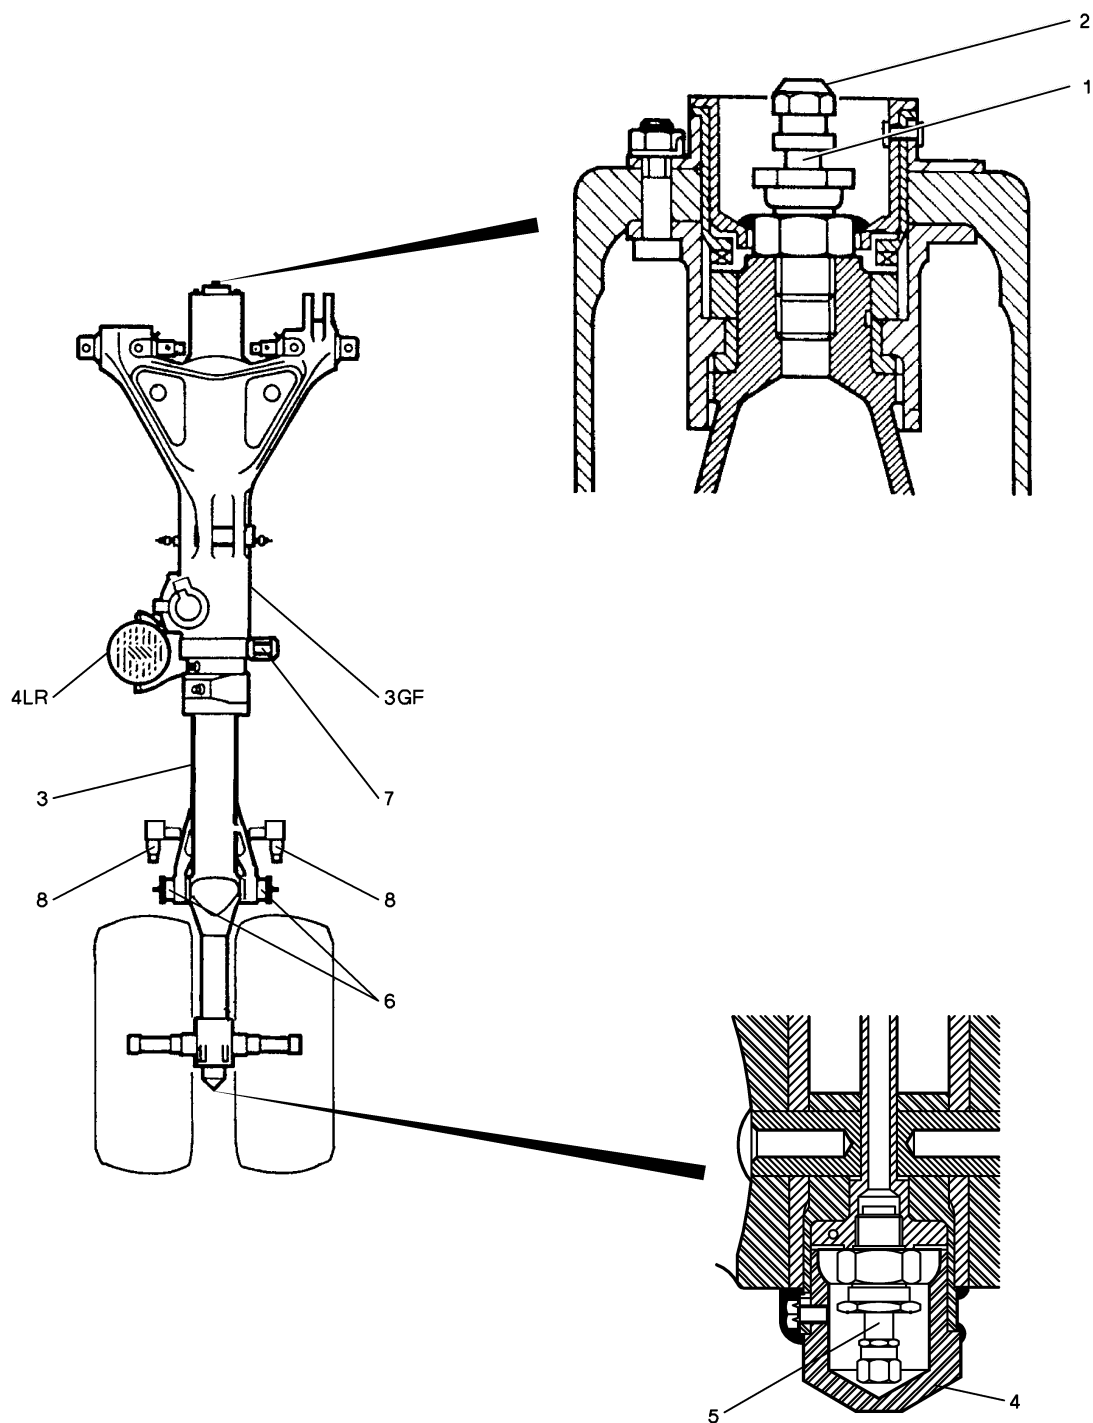
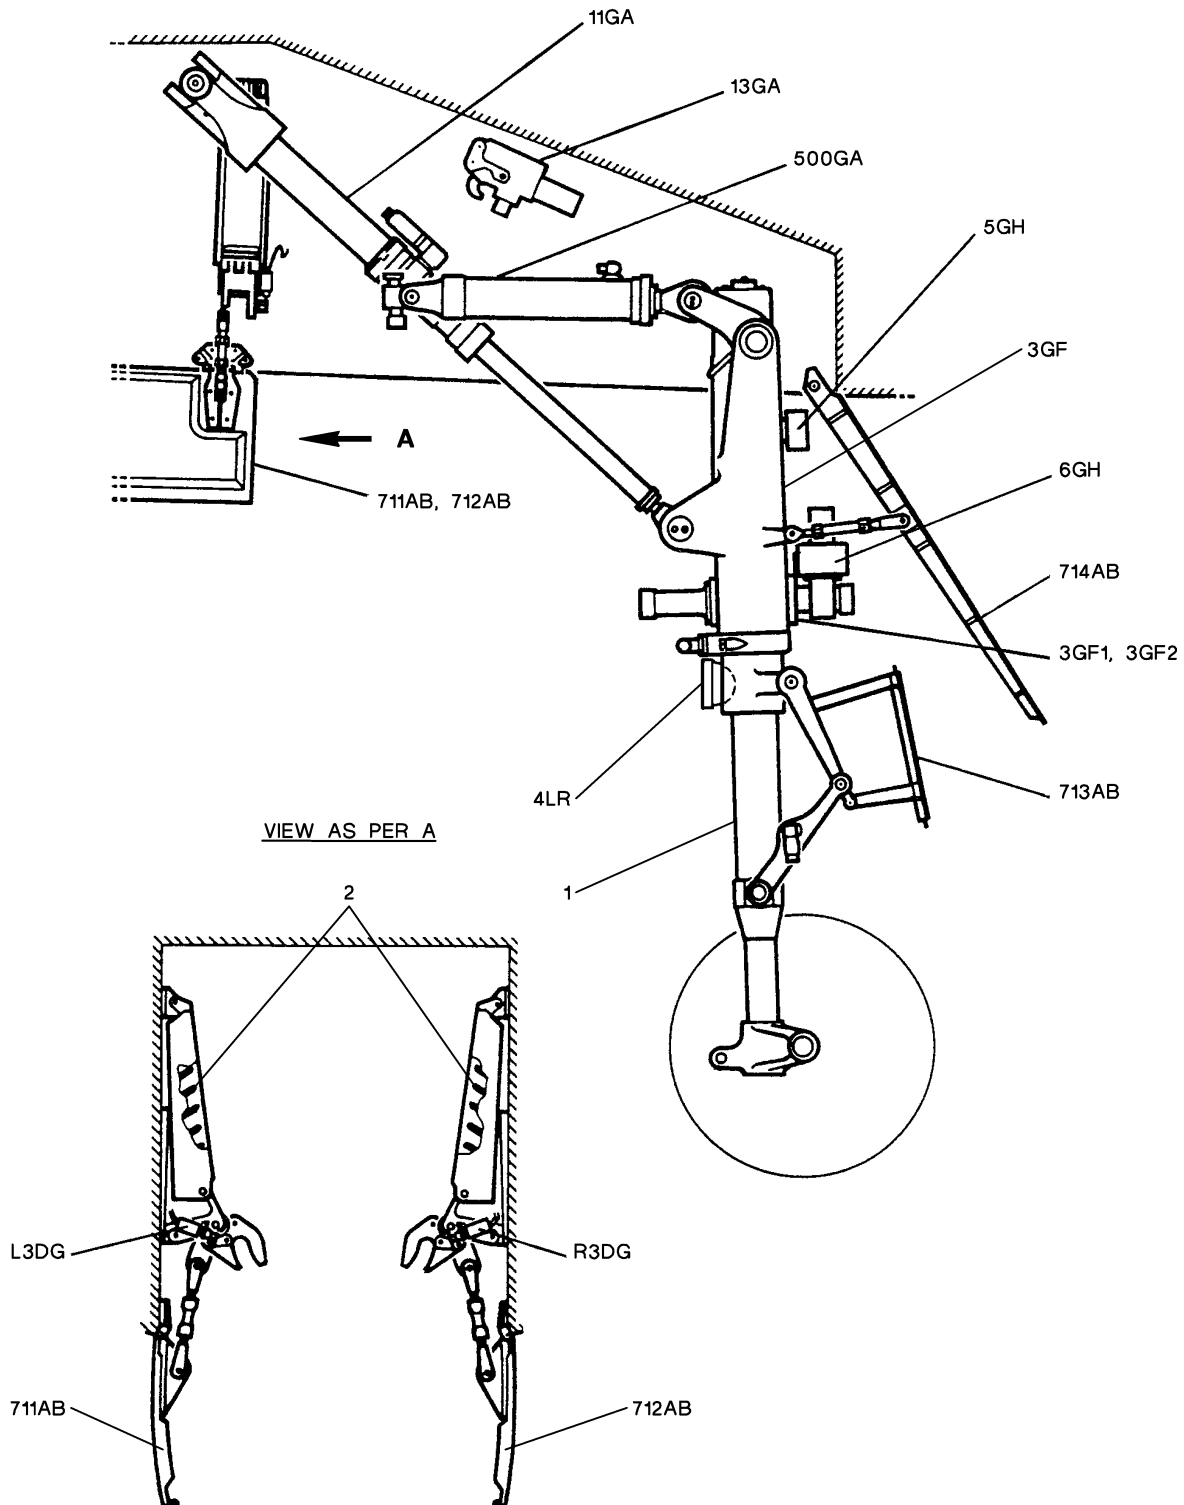

Figure 1: Location of Equipment Items of Nose Landing Gear
Figure 2: Nose Landing Gear and NLG Doors
Refer to **fig. 1** and **fig. 2**
- A. Check taxi light (**4LR**) (**fig. 1**)
- (1) Visually check for:
- (2) Check that the light transparency is not cracked or broken.
- B. Check nose landing gear leg (**3GF**) (**fig. 1**)
- (1) At the top of the leg, check that charging/filling valve (1) is fitted with a protective blank (2).
- (2) At the bottom of the box structure and of shock absorber (3)
- (b) Check for presence of protective casing (4) on shock absorber HP charging valve (5).
- C. Check the following components for condition (**fig. 2**):
- mechanism controlling doors (2) (**711AB**)/(**712AB**) and electrical connections of nose gear main door proximity sensors (**L3DG**)/(**R3DG**).
- D. Check the condition of the electrical connectors and that they are correctly connected to nose steering repeater box (**6GH**) and to nose steering system servo (**5GH**) (**fig. 2**).
- I. Check towing lugs (6) and landing gear uplock (7) and door control rollers (8) for condition (**fig. 1**).
- J. Check the sliding rods for cleanliness (**fig. 2**):
- shock absorber (1),